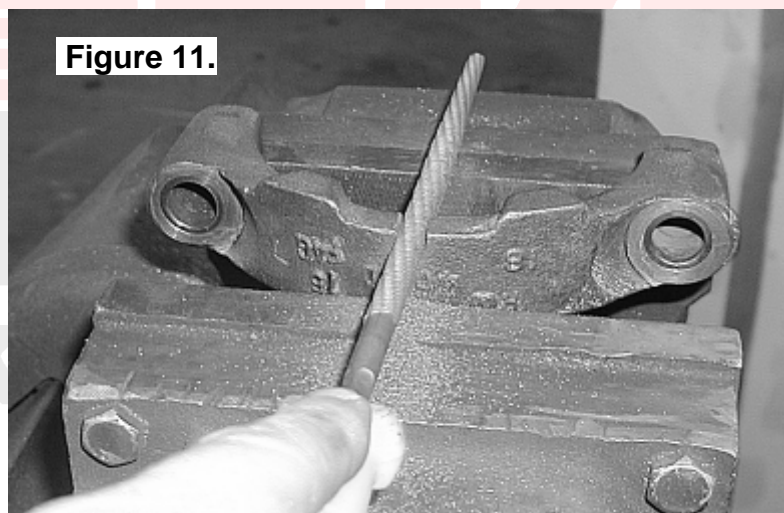

Figure 11.
- Using a 6.35mm [ $\frac{1}{4}$ "] rat-tailed file. File out a notch in the bearing cap from the closest edge until an adequate notch has been cut around the position of the punch mark. (Fig. 11.).